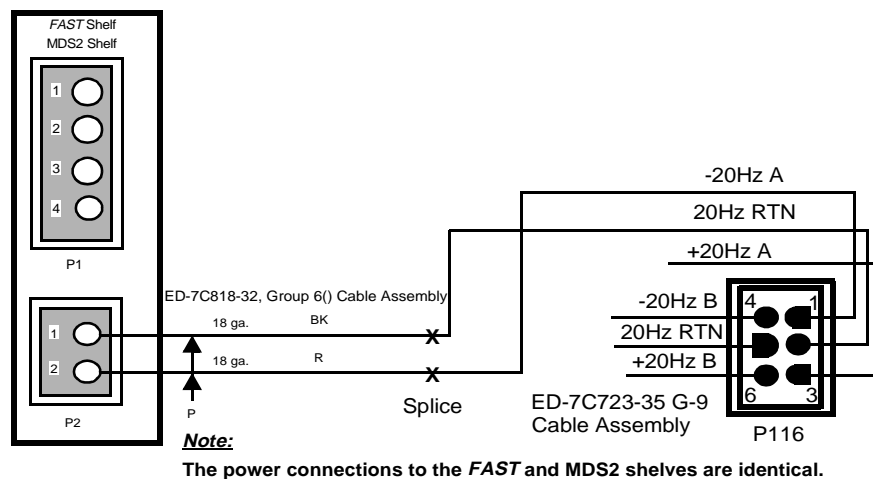

Figure 3-8. J1C182BC-1 Remote Terminal Ring Shelf Ringing Cabling (ED-7C723-35, Group 9 and ED-7C818-32, Group 6 Cables)
14. Splice the ringing voltage pair of the ED-7C818-32, Group 6() cable assembly to the ringing voltage pair of ED-7C723-35, Group 9 cable assemblies by using a suitable splicing tool. See Figure 3-8.